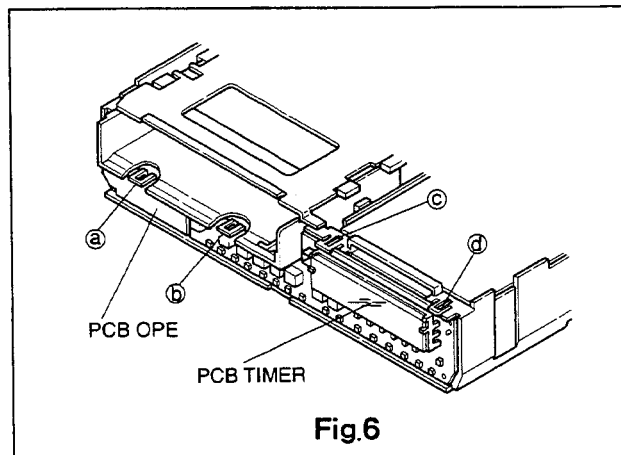

Fig.6
- A. Remove the Front Panel. (Page 1, item 2).
- B. Unfasten the four stopper (a~d), and remove the PCB OPE and PCB TIMER as shown in Fig. 6.